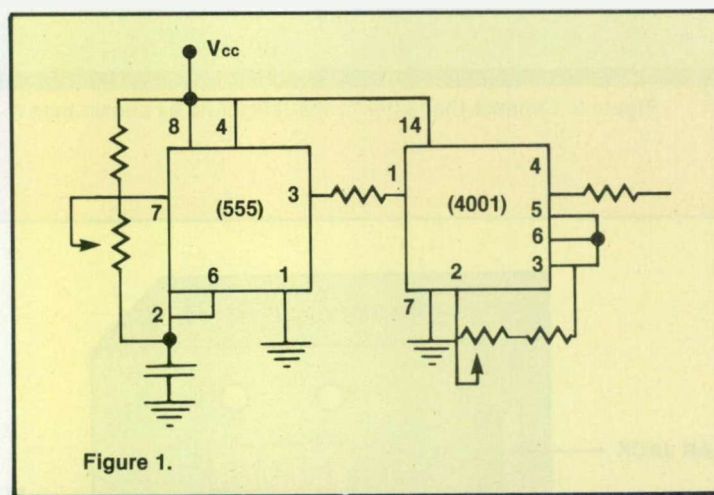

Figure 1. The pin numbers for two of the ICs—the 555 and the 4001—were omitted on the schematic in the November article. This is how the pins are labeled.
- The 7812 and 7805 are IC voltage regulators with a V_{IN} , V_{OUT} and ground lead. These are labeled on the package when you buy them, or you can check your ECG or SK substitution guide—it depends on the case style you purchase. (See Figures 1 and 2.)